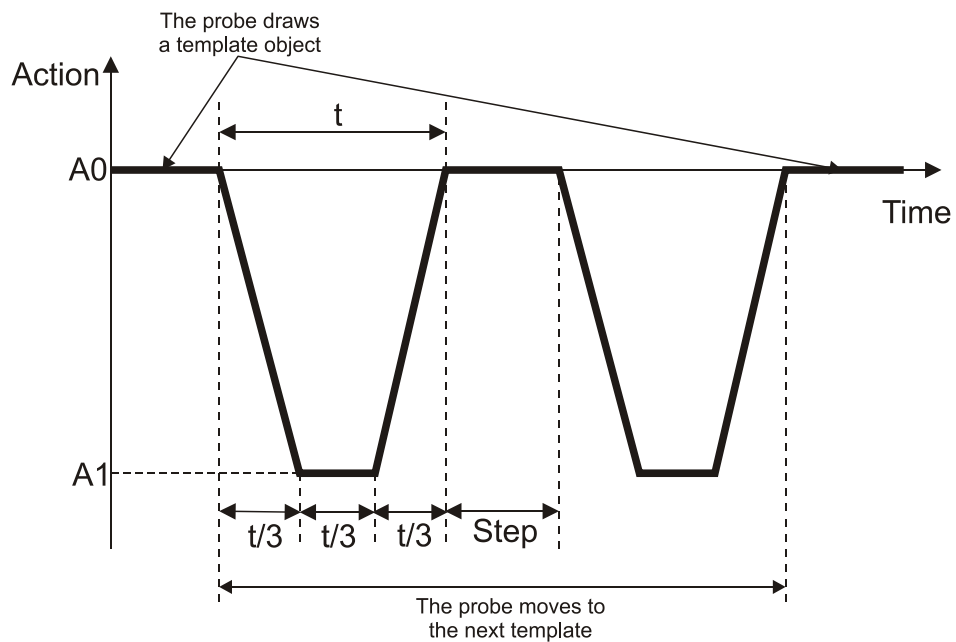

Fig. 12-4. Force applied to the sample in the course of the Pulse lithography. Example of the  pulse shape is shown
The Figure below demonstrates a time diagram of the force applied to the sample in the course of the Pulse lithography (Fig. 12-4).
- 3) Pulse shape . The time interval t is divided by three equal parts (see Fig. 12-4). Initial level of the applied force is $A0$. The applied force ramps linearly during the first part (of duration $t/3$), to the level $A1$ and remains constant for the next subinterval $t/3$. Finally, during the last subinterval $t/3$ the force returns to its initial level $A0$.